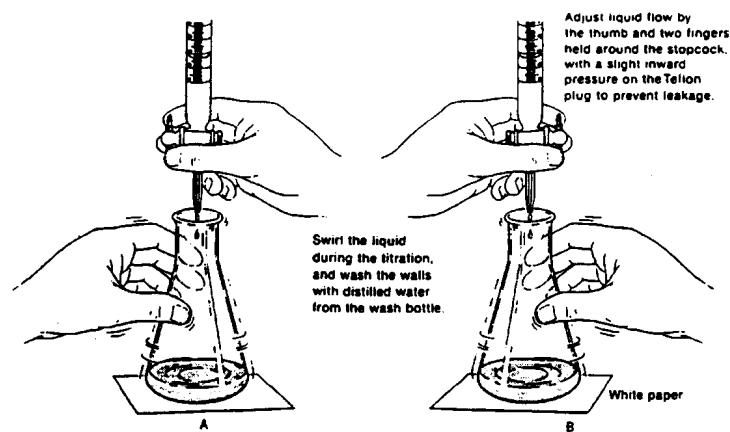

Figure 0-4. Delivering solution from the burette
To deliver solution from the burette, open the stopcock. The recommended technique for manipulation of the burette stopcock is shown in Figure 0-4. Most left-handed students will prefer to manipulate it with the right hand (A), whereas most right-handed students will prefer to manipulate it with the left hand (B). The solution should be delivered into an Erlenmeyer flask (not a beaker) held in the opposite hand and swirled continuously. For titrations, a piece of white paper beneath the flask makes the endpoint easier to detect. Near the endpoint, solution from the burette must be delivered one drop at a time. Drops hanging from the burette tip are already counted as volume delivered. They can be added to the Erlenmeyer flask by gently touching the burette tip to the side of the flask and washing drop down into the flask with distilled water from a squirt bottle.